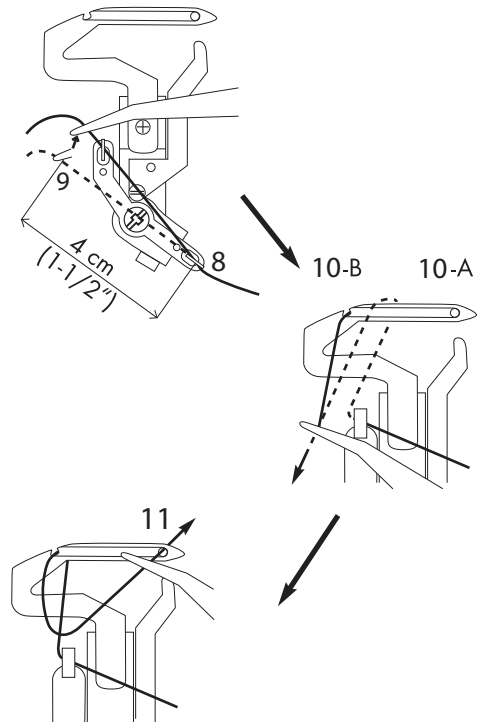

Fig. 23
6. Firmly hold the yarn with the tweezers about 4 cm from the thread guide (Fig. 23).
8. Pull the yarn upwards into the thread guide (9).
9. Lead the yarn to the rear and over the upper end of the lower looper ⑳ (10A) (Fig. 23).
10. Then, carefully pull the yarn down so that it slides into the recess of the looper (10B) (Fig. 23). For this step also use the drawing which is attached to the machine!
11. Guide the thread through the looper eyelet (11). The yarn should run in the groove of the lower looper ⑳ (Fig. 23).
12. Draw around 10 cm of yarn through the looper and place it to the rear over the upper looper ⑑ and the stitch plate ⑬.